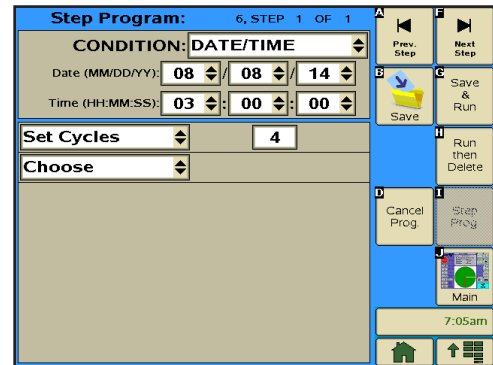

Figure 172-1
1. Push **Prog** and **Step Program** to view the Step Program screen. Refer to Figure 172-1.